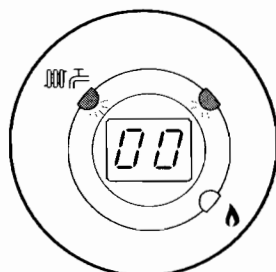
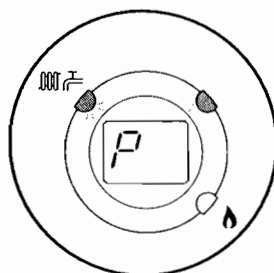

Fig. 36
Fig. 37
7. Turn CH temperature control knob fully clockwise. As the knob is turned the display will change from '0' to '00' (Fig. 36) indicating maximum rate, then revert to 'P' alternating with the current boiler temperature (Figs 37 & 38).